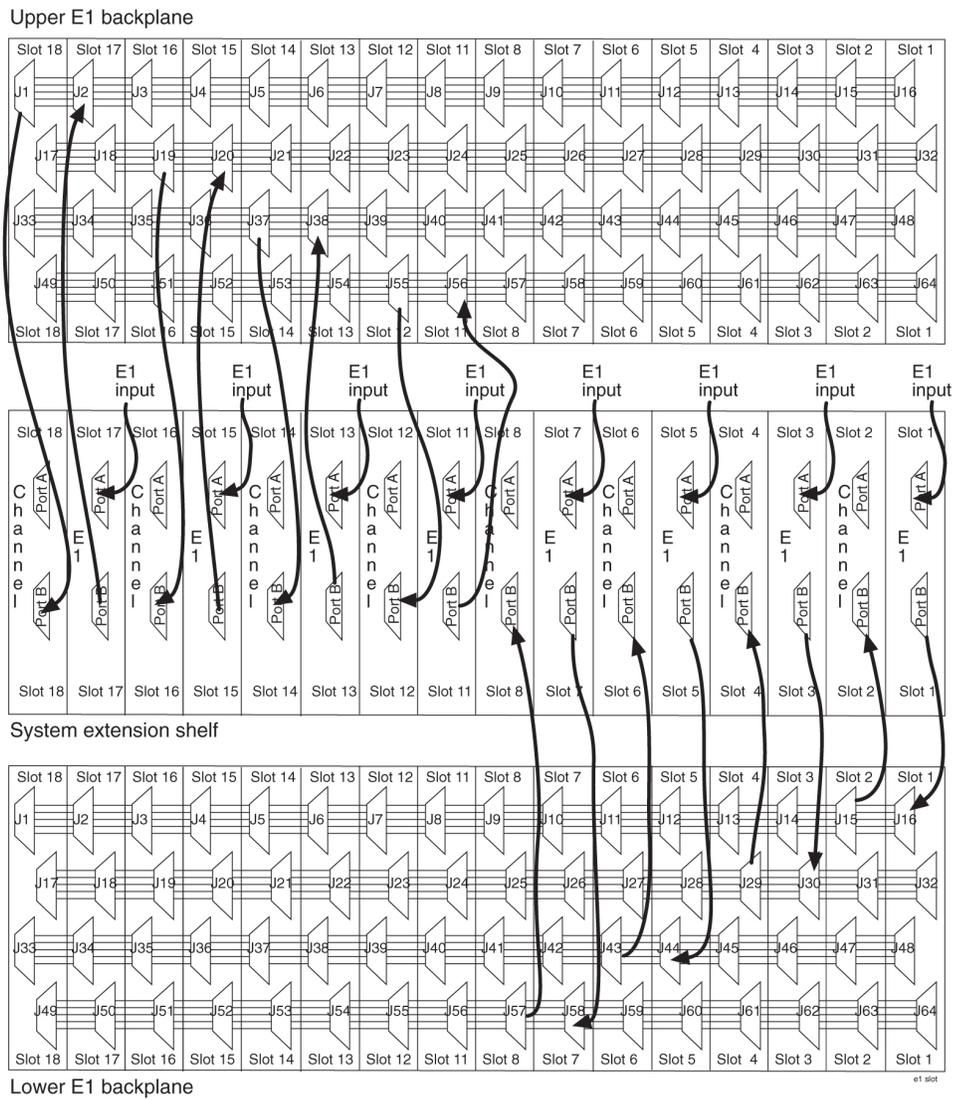
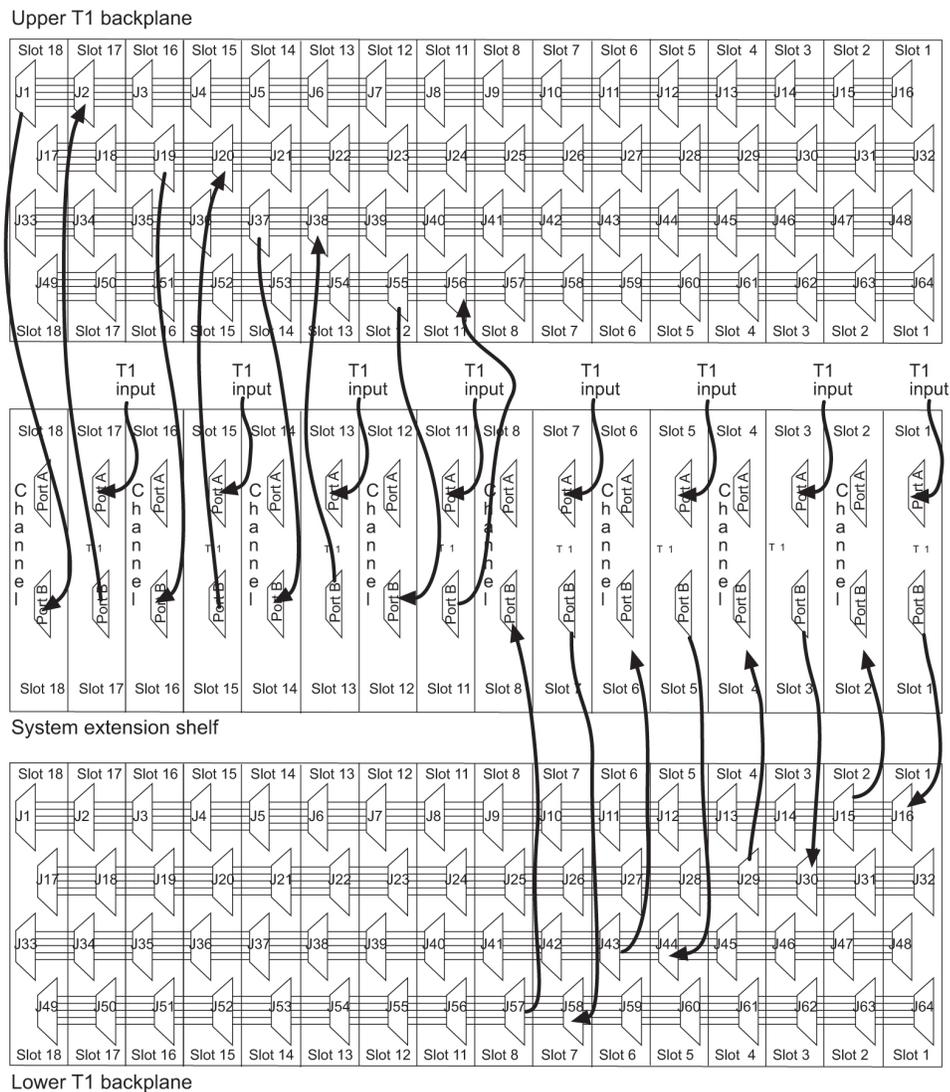

Figure 126: E1 Interface Backplane Connections
Figure 127: T1 Interface Backplane Connections
- E1 Interface backplanes, see Figure 126: E1 Interface Backplane Connections
The E1 Interface Backplane is designed to allow the maximum number of possible customer setups. It allows the customer to choose between several levels of diversity and convenience. Configurations depend on the number of cards configured as E1 cards versus the number of cards configured as channel cards. The level of diversity required by the customer also affects the configuration requirements. Sample configurations are provided see Figure 126: E1 Interface Backplane Connections. All signals labeled “E1 input” may be one or two E1 ports depending on the cable used.
When mounting E1/T1 backplanes be aware that the connectors are marked on the board as J1-J16, J17-J32, J33-J48, and J49-J64 should be connected so that the E1/T1 board card slot numbers match the shelf card slot number on both the top and bottom boards. For this to be accomplished, the top E1/T1 board must be turned 180 degrees from the bottom board, see Figure 126: E1 Interface Backplane Connections for E1 connections and see Figure 127: T1 Interface Backplane Connections for T1 connections.